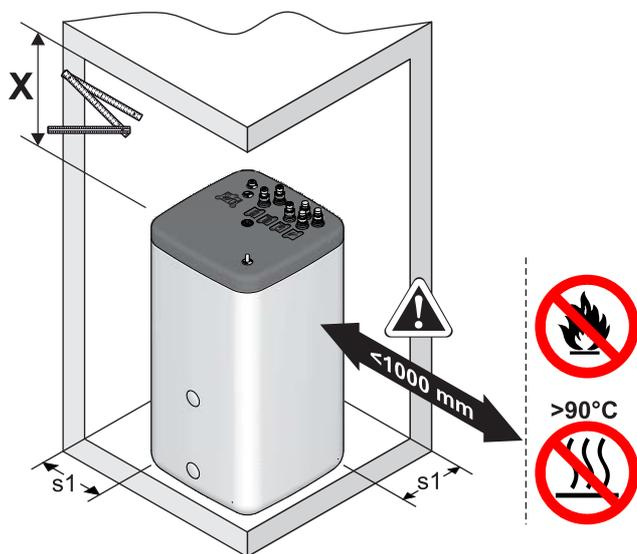

Fig. 3-2 Erecting the hot water storage tank (shown on the EKHWP)
- Install the domestic hot water storage tank at the installation site. **Recommended distance** to the wall (s1): ≥200 mm (fig. 3-2).